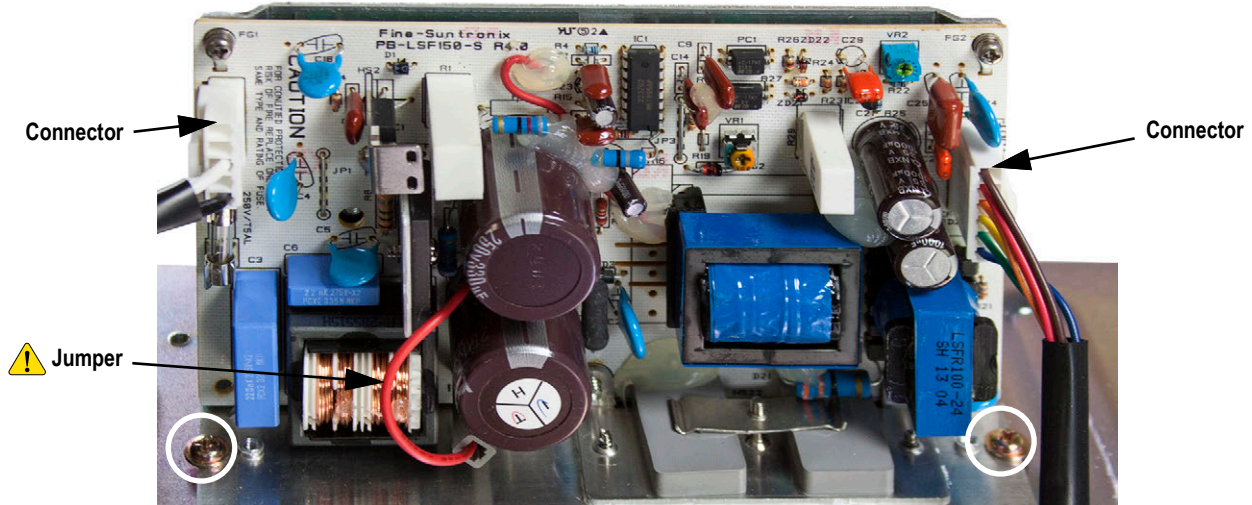

Figure 3-22. Power Supply Disassembly
12. Thread the end of the wire into the hole in the side wall (see Figure 3-22 on page 50).